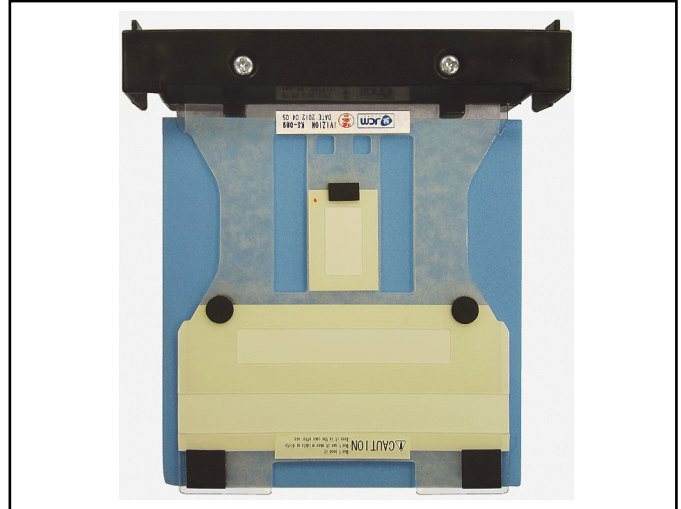

Figure 2: iVIZION Calibration Reference Paper KS-89 (EDP# 211266)
- KS-89 (for use on Validator Heads with or without Bill Guides, EDP #211266 - **Figure 2**)